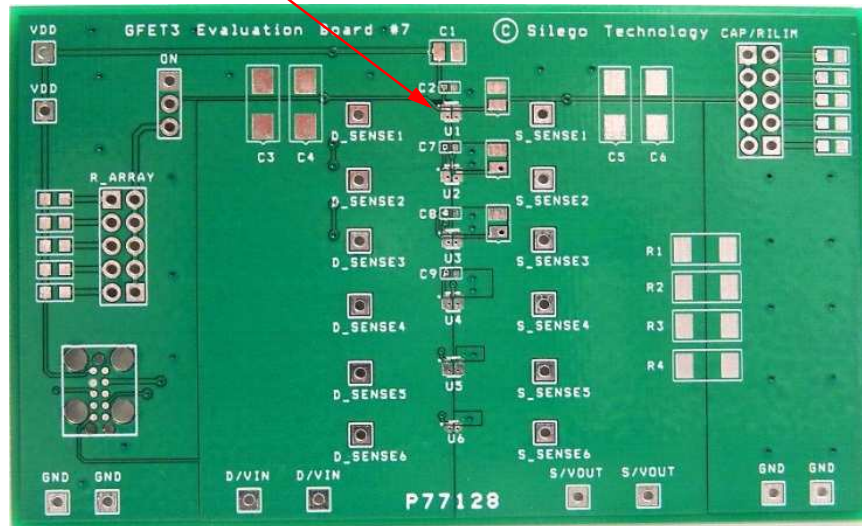

Figure 1. SLG59M1598V Evaluation Board.
2. Since the D and S pins dissipate most of the heat generated during high-load current operation, it is highly recommended to make power traces as short, direct, and wide as possible. A good practice is to make power traces with absolute minimum widths of 15 mils (0.381 mm) per Ampere. A representative layout, shown in Figure 1, illustrates proper techniques for heat to transfer as efficiently as possible out of the device;
A GreenFET Evaluation Board for SLG59M1598V is designed according to the statements above and is illustrated on Figure 1. Please note that evaluation board has D_Sense and S_Sense pads. They cannot carry high currents and dedicated only for RDS_{ON} evaluation.